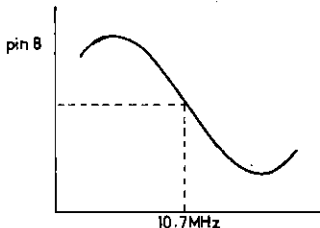
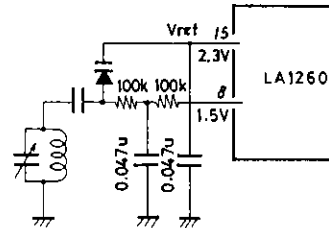

Fig. 1
Fig. 2 Domestic (lower local oscillation) band
- . The values recommended for the detection coil are shown below. (See Fig. 1.)
The S curve at the FM output pin (pin 8) is as shown in Fig. 1. Therefore, the domestic (Japan) band (lower local oscillation) use and foreign band (upper local oscillation) use differ as shown in Figs. 2 and 3.